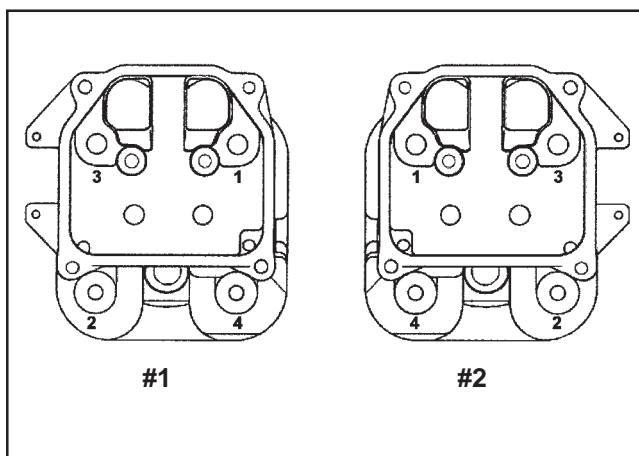

Figure 11-38. Cylinder Head Fastener Torque Sequence.
4. Torque the hex flange screws in two stages; first to 22.6 N·m (200 in. lb.), then finally to 41.8 N·m (370 in. lb.), following the sequence in Figure 11-38.
6. Lightly lubricate the exposed (upper) threads of the studs with engine oil. Install a flat washer and hex nut onto each of the mounting studs. Torque the hex nuts in two stages; first to **16.9 N·m (150 in. lb.)**, then finally to **33.9 N·m (300 in. lb.)**, following the sequence in Figure 11-38.